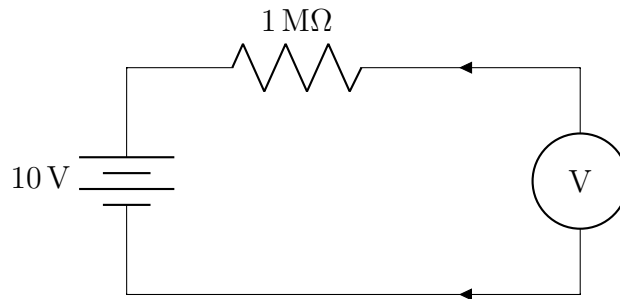

Figure 2: Circuit used to measure the internal resistance R_M of the voltmeter
To determine the internal resistance of the voltmeter, set up a circuit as shown in Figure 2.
4. Assemble the circuit in Figure 2.